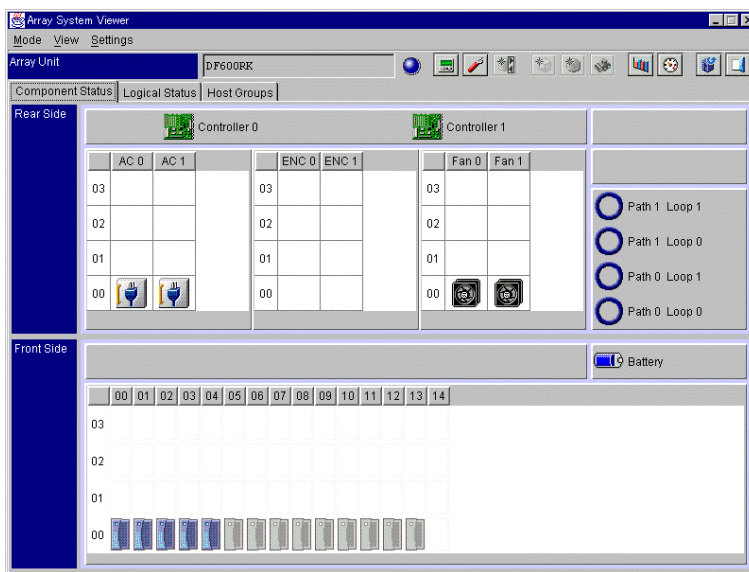

Figure 3.1 Array System Viewer Panel (Component Status Page)
The Array System Viewer panel (see Figure 3.1) opens displaying the connected subsystem.
2. Connect to the subsystem. The Array System Viewer panel (Figure 3.1) opens displaying the connected subsystem.